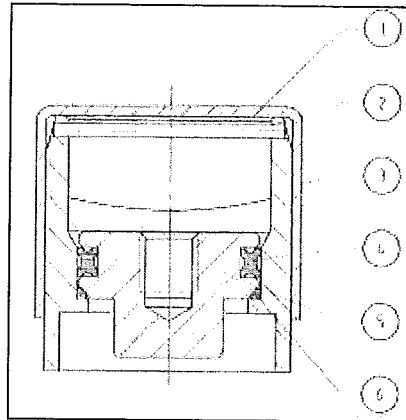

Figure 2: Cross section pump valve
Each section ends with a welding ring (Fig.1, pos.2) on the outside jacket. At the connection of the sections, the jacket (Fig.1, pos.3) is welded on these welding rings. The jackets do not have a section number. The diameter of the jacket is such that it fits exactly over the welding rings. The pump valves (Fig.1, pos.6) are supplied separately, and are all identical. Also refer to figure 2.
Position the pump valve house (Fig. 2, pos. 3) in the opening in the jacket. Check whether the opening is properly covered by the pump valve house. Do not insert the house too far in the jacket. This can lead to problems when connecting the pump-out tool. Now weld the pump valve house fixed in the jacket.
Now the welded coupling can be vacuumised. To this end you need a pump-out tool and the remaining parts of the pump valve. Lightly grease the Quad-ring (Fig. 2, pos. 4) with silicone grease. In case of oxygen applications, you must use e.g. Fomblin grease. Position the Quad-ring in the groove in the plug (Fig. 2, pos. 5). Then fit the plug, with Quad-ring on the spindle of the pump-out tool (M8 thread). Screw the plug lightly onto the spindle. Do not use any tools. Remove the spindle from the pump-out tool in the top position, and turn the spindle in such a way that it locks in the highest lock. Check whether the outside of the pump valve is actually clean. Now lightly grease the O-ring (Fig. 2, pos. 6) and place it in the pump valve house on the position shown in figure 2. Now place the pump-out tool on the pump valve.
Remove only the leakage tester, and connect a vacuum pump to the pump-out tool. Now vacuumise the space in the welded coupling up to a vacuum level of  $1 \times 10^{-4}$  mbar. Once this vacuum level has been reached, the pump valve can be closed. Turn the spindle of the pump-out tool out of the height locking, and slowly push the spindle downwards. When the plug comes into contact with the house of the pump out tool, you must push the plug in the pump valve house using a certain amount of force, until you feel that the plug touches an end stop. Also refer to figure 2.
Finally the pump valve must be further finished. Apply vacuum grease (428 of Rhodorsil, manuf. Rhône-Poulenc) to the top of the plug which is visible in the pump valve house. In particular the transition zone between the plug and the pump valve house must be properly greased. The grease is clearly shown in figure 2.
Insert the supplied small shaft  $\varnothing$  2 mm (Fig.2, pos. 2) through the holes at the top of the pump valve house. Finally place the plastic protection cover (Fig.2, pos.1) over the pump valve. Now the welded coupling is completely fitted.